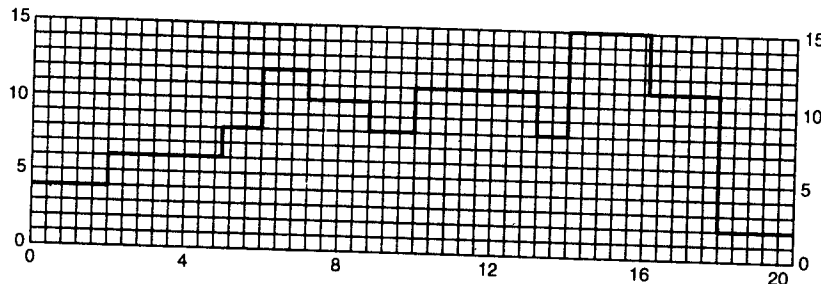

Fig. 25.70
**Step 4. (Shifting of Activities).** To smoothen the resources (load) the activities will have to be shifted depending upon the floats. Path 3 → 6 → 8 → 9 has a float of two weeks, and the activities 6—8 and 8—9 are shifted to the right in order that the starting of each is delayed by two weeks. Similarly, activity 4—7 can be shifted to the right so that it starts on 10th day instead of starting on 7th day. After making the necessary shifting, the network is drawn as shown in the Fig.25.70.